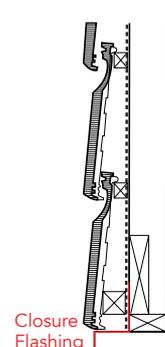

Figure 5: Above Lintel
- A closure flashing shall be provided at the base of the wall behind the underlay where the lintel begins (see Figure 5).